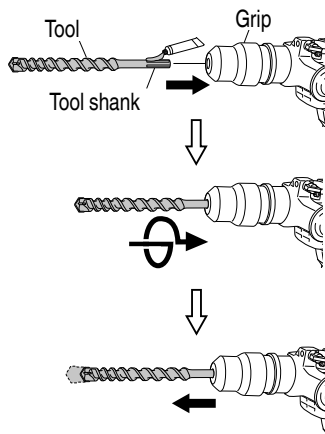

Fig. 10
- (1) Clean, then smear the tool shank with the grease provided in the green tube.
- (2) To attach the tool (SDS max shank), insert it into the hole until it contacts the innermost end of the hole as illustrated in Fig. 10.